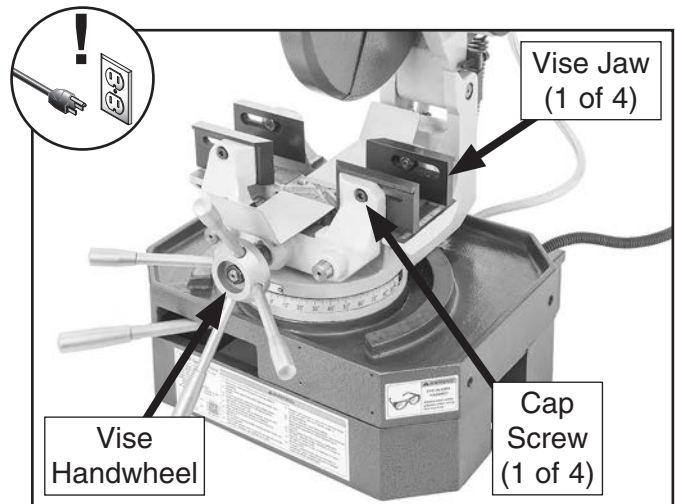

Figure 36. Location of vise components.
4. To adjust each jaw independently, loosen vise jaw cap screw until jaw slides freely (see **Figure 36**).